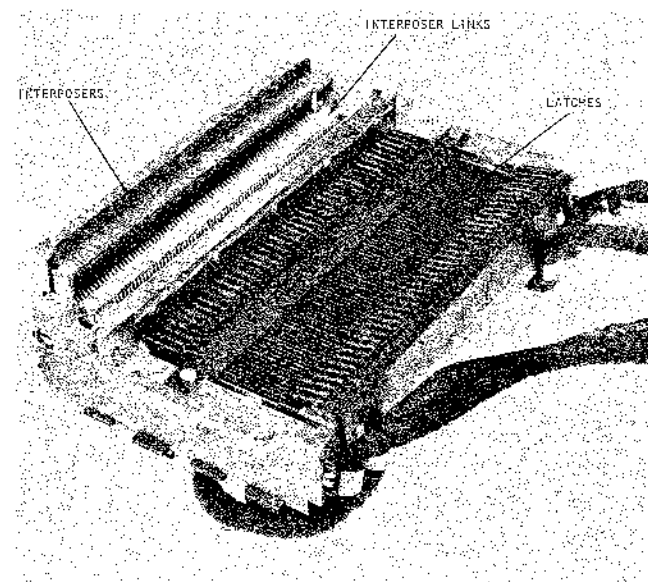

Figure 46. Punch Magnet Unit
2. The magnet unit (Figure 46).
Interposer and Interposer Link Removal (Figure 46)